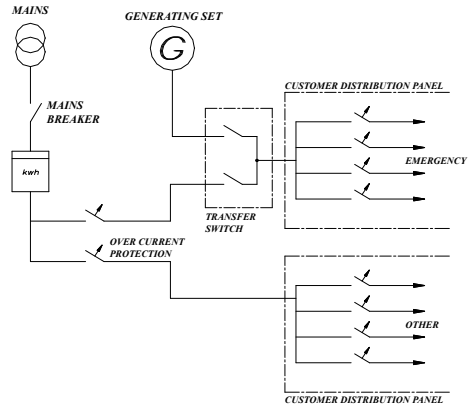

Figure 9.1. Typical emergency power system installation.
- If the transfer panel is mounted on the GenSet, 2 power cables should be taken from Customer Panel, one of them is Mains the other one is Load cable. You can see a typical emergency power system installation at Figure 9.1.